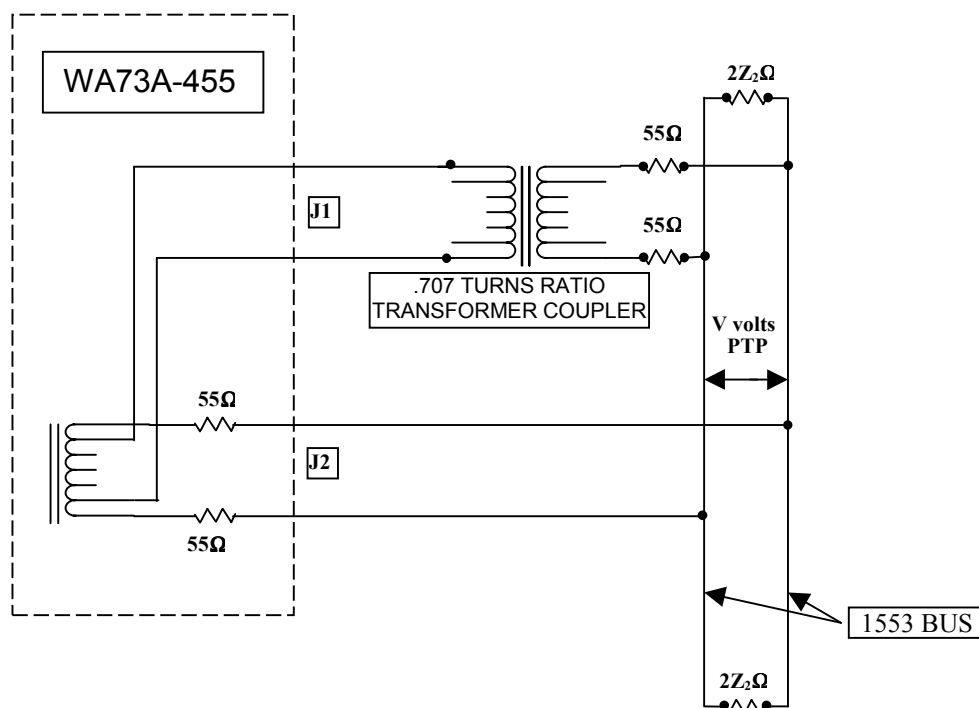

Figure 455-6: Direct and Transformer-Coupled Circuit Connections
For transformer coupled connections to the WA73A-455, the voltage (V) specified is that which would result on the bus side of a coupler, as shown in Figure 455-6 above. The voltage at the transformer-coupled output (J2) of the WA73A-455 Module is approximately $0.707V_{z_2} / (110 + z_2)$.